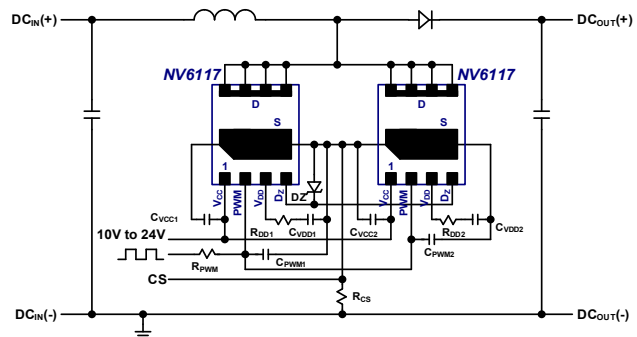

Fig. 25. Boost schematic using two parallel ICs
For some applications it is desirable to parallel ICs in order to reduce conduction losses and temperatures. Two NV6117 ICs can be connected in parallel in a PFC boost application working in boundary-conduction mode (BCM) only. The parallel configuration for two NV6117 ICs is shown in Fig. 25. The paired pins that are connected together include the drain pins (D), the source pins (S), the  $V_{CC}$  pins, the PWM pins, and the  $D_Z$ . A single  $D_Z$  diode can be shared by both ICs. The  $V_{DD}$  pins are not connected together and require separate  $V_{DD}$  supply capacitors ( $C_{VDD1}$ ,  $C_{VDD2}$ ) and separate turn-on current set resistors ( $R_{DD1}$ ,  $R_{DD2}$ ). Each IC should have its own local  $V_{CC}$  supply filter capacitor ( $C_{VCC1}$ ,  $C_{VCC2}$ ). The PWM pins can have a single filter resistor ( $R_{PWM}$ ) but separate filter capacitors ( $C_{PWM1}$ ,  $C_{PWM2}$ ) should be placed at the PWM pin of each IC. When designing the PCB layout for the two paralleled ICs, the drain and source connections should be made as symmetrical as possible to avoid any parasitic inductance or capacitance mismatch. A proper PCB layout example for paralleling is shown in Section 10.